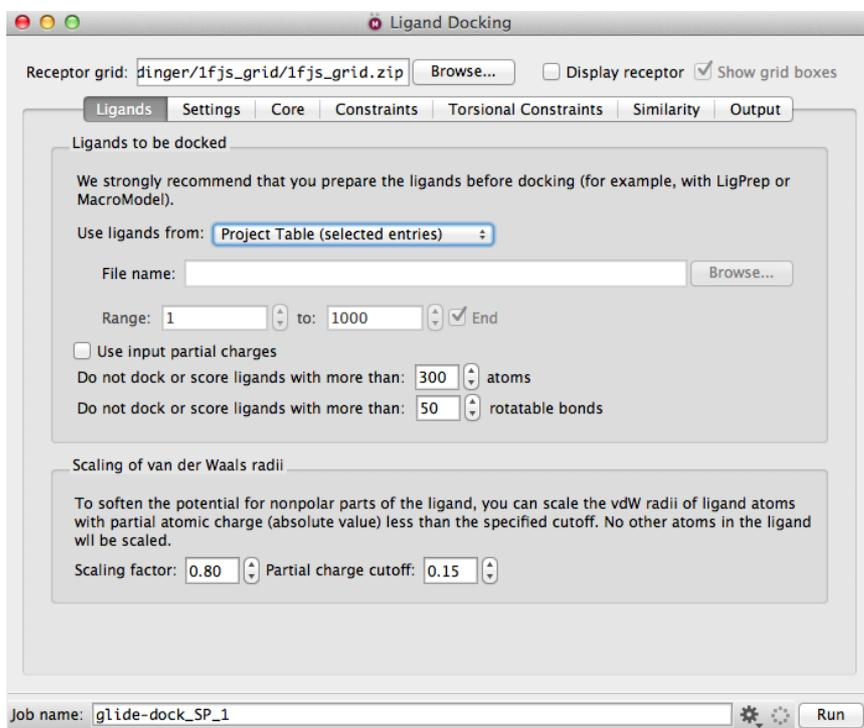

Figure 12. Ligand docking settings.
12. Define the Docking Settings. Select the group "50ligs_epik" in the project table. Open the **Ligand Docking** panel (Tasks -> Docking -> Glide Docking). In the **Settings** tab specify the grid file you generated in Part 3 by pressing **Browse** and then navigate to the "1fjs_grid.zip" file in your working directory. Select **Project Table** (Selected Entries) from the drop down menu for **Use Ligands from** (Figure 12).